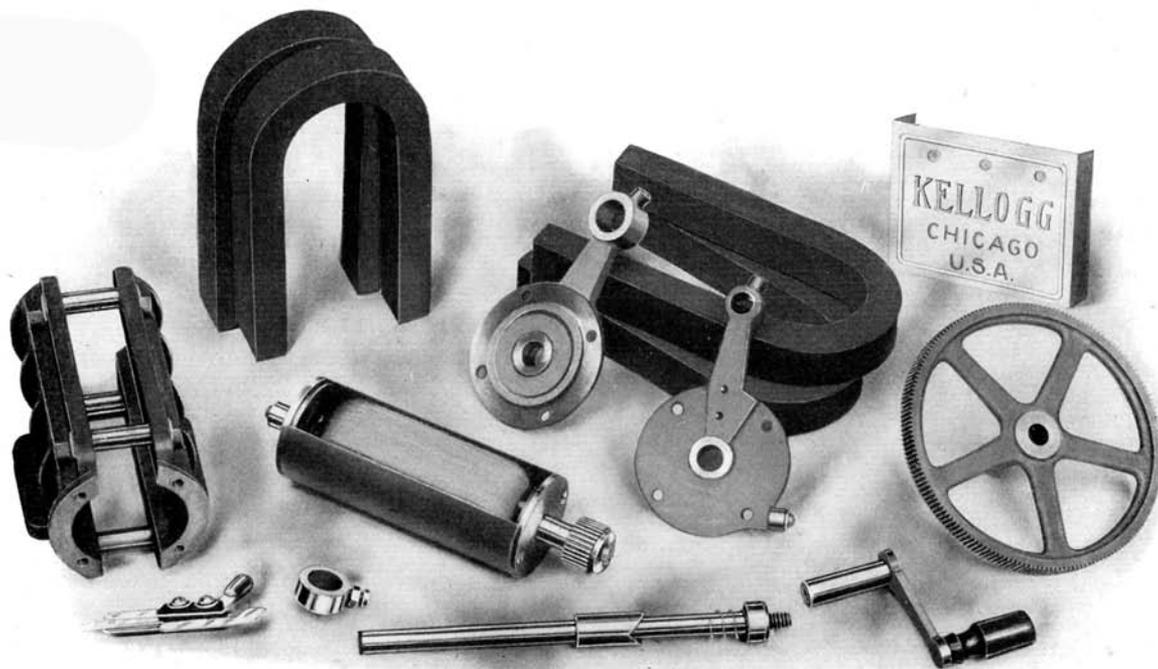

FIG. 3. GENERATOR PARTS.
**POLE PIECES**—The two iron pole pieces forming the frame and field of our generator are separated and securely fastened by four heavy brass posts, as shown in Fig. 3. This gives a rigid construction regardless of the end plates, and allows the poles to be bored out to gauge, and to retain their relative positions regardless of any clamping effect of the magnets, or rough usage to which the complete generator may be subjected.